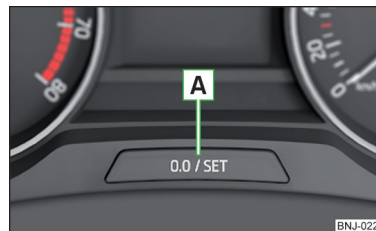

Fig. 41
- › Press and hold the button **A** » Fig. 41 until the **Service** menu item is shown in the display.